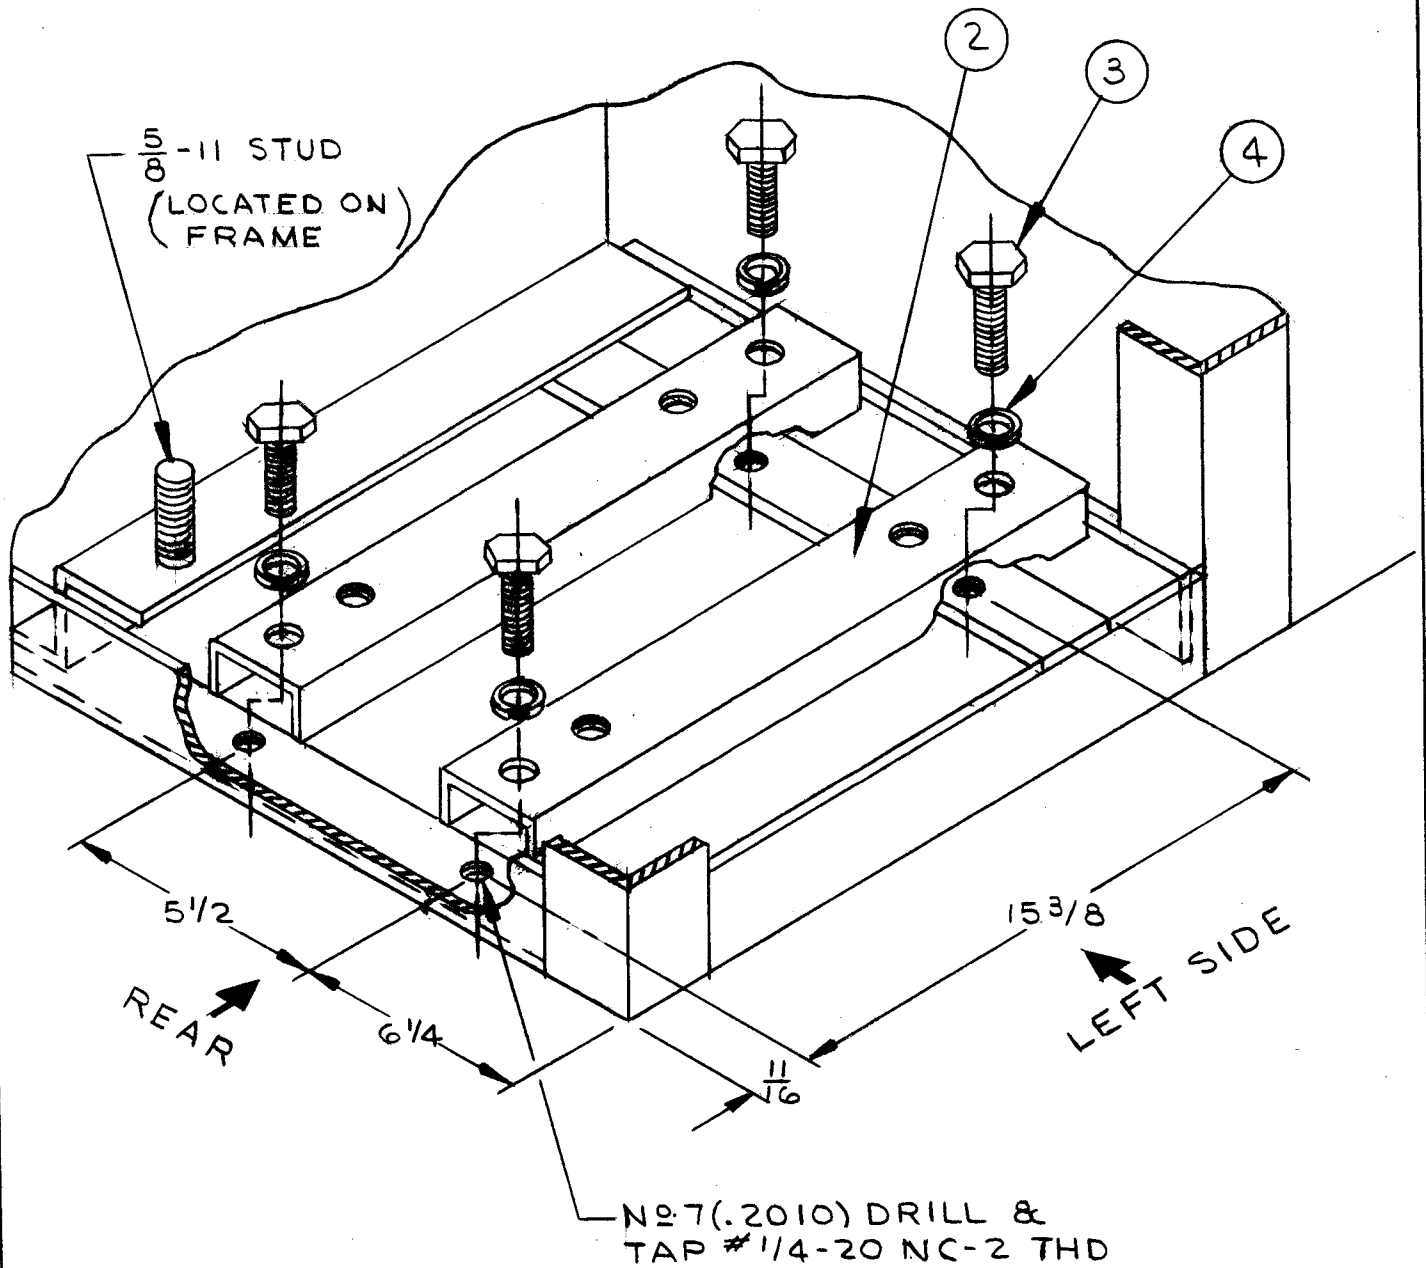

FIG. 1
3. Refer to Figure 1. Using qty 1 Item 13 (DRILL,1/8), drill pilot holes. Drill pilot holes to required diameter using qty 1 Item 14 (DRILL,#7(.2010) and tap with qty 1 Item 15 (TAP,#1/4-20 NC-2 THD). Place Item 2 (MS6038) as shown.
4. Using qty 4 Item 3 (SCHH2520BN28) and qty 4 Item 4 (LWS25MRN), secure qty 2 Item 2 (MS6038) in place as shown in Figure 1.